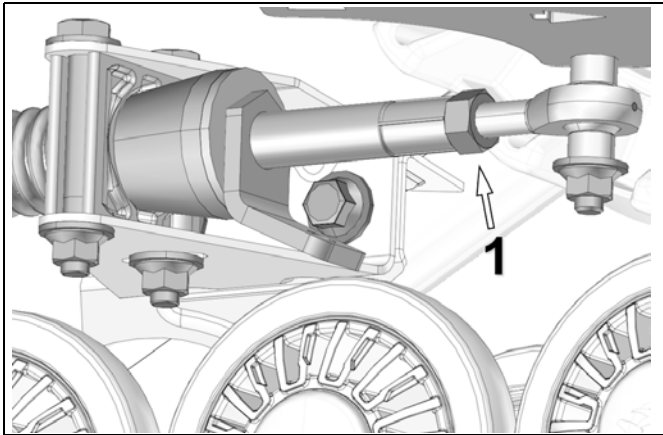

Figure 19
- Re-tighten jam nut (1) to 40 N•m [30 lb•ft] of torque when adjustment is complete. See Figure 19.